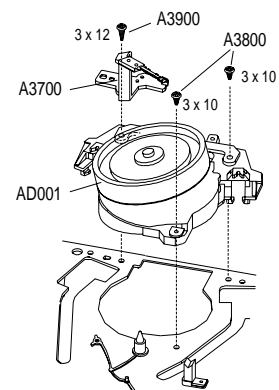

Fig. 6
- Undo screw (Pos. A3900) and 2 screws (Pos. A3800, Fig. 6).
- Remove the earth spring (Pos. A3700, Fig. 6).
- Remove the tape drum mounting base together with the tape drum assembly and the headwheel motor (Pos. AD001, Fig. 6) carefully from the drive mechanism.